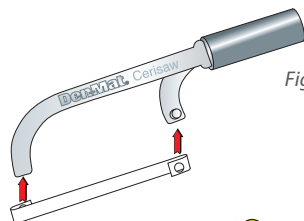

Fig. 1
2. Wrap the CeriSaw strip onto the pin located at the front end of the handle, then back around to the pin on the rear end of the handle. The strip forms an "S" shape around the front and back handles. (Fig. 1)